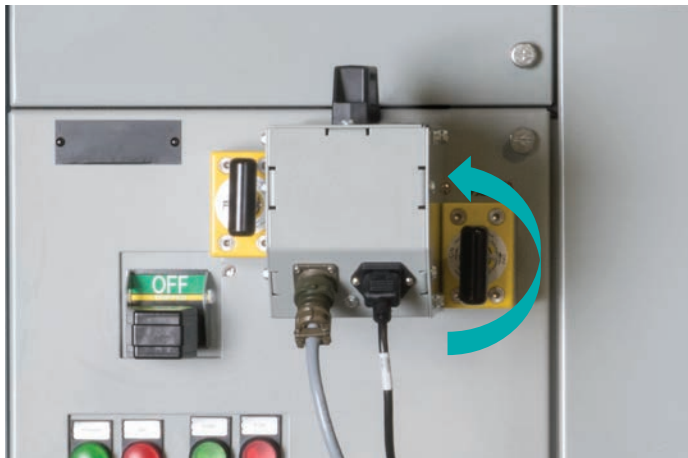

Figure 20: Rotate remote operator to adjust so that both magnets are on the door and lifting handle on top of the motor enclosure faces upwards
2. If the door has a cover plate, lift it up to expose the mechanism drive socket. With the cover plate lifted, slide the motor's drive bar into the mechanism drive socket. Insert the remote operator drive shaft into the mechanism drive socket. After insertion, rotate the remote operator so that the remote operator handle points upwards (refer to Figure 20).